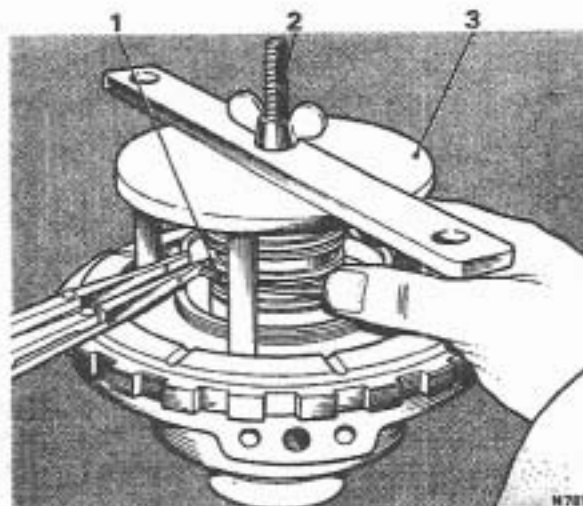

FIG. T265 REMOVING AND FITTING THE INTERMEDIATE CLUTCH PISTON SNAP RING
2. Using clutch spring compressor RH 7965 (J-4670) and rear clutch spring compressor RH 7967 (J-6129), compress the springs then remove the snap ring (see Fig. T265).